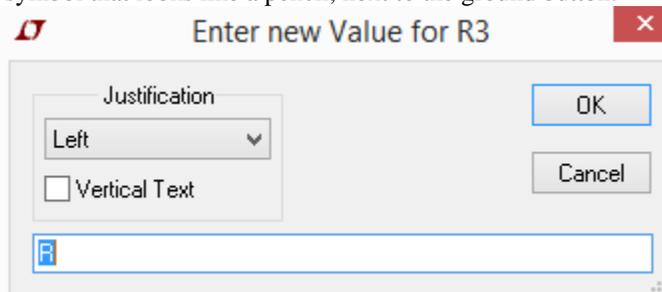

Figure B-5.
- To complete the schematic, we have to change the component values. Each resistor was given a name in the order it was placed on the diagram. Thus, your resistors may not have the same names as shown above. However, for simplicity, they will be referred to by the name shown here and you can change the names if you wish the same way their parameter values are changed. To change R3 to 1Meg Ohm, right click on the bottom *R* and you should get the window shown in Figure B-5. Change the *R* to *1MEG*. If you find that the number or anything else is in a hard to read position on the circuit diagram, move it with the mouse by first clicking on the *Move*